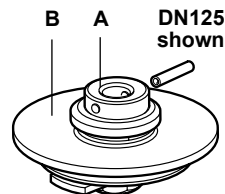

Fig. 6
- (See Figure 6) The pre-lifting plug (A) acts as a pilot valve and is opened first, allowing the medium to pass through at a controlled rate. The differential pressure then reduces across the valve - allowing the main valve plug (B) to be easily lifted off its seat. To assist closing the valve the flowing medium must enter on the 'Bellows' side, this is the opposite to normal installation.